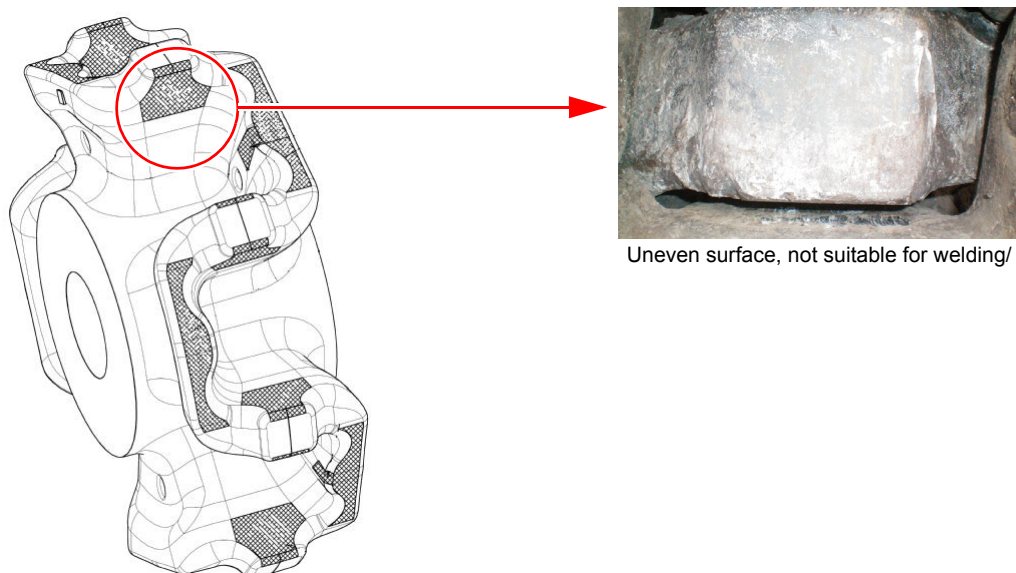

Figure 2: Unsuitable welding surface
- All surfaces that will be welded must be relatively smooth and level in order to allow for uniform deposit of weld buildup. Any uneven surfaces should be ground to a clean, smooth finish in order to allow for even weld layers (see Figure 2 on page 8).